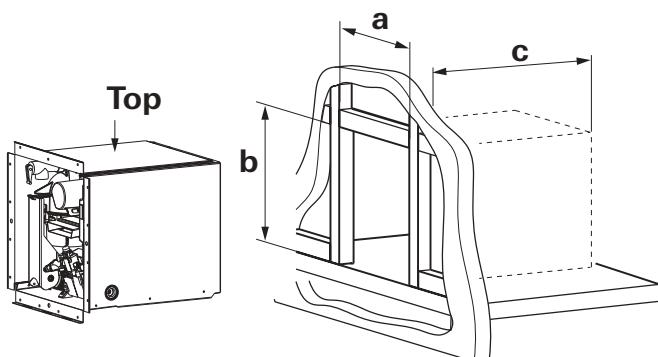

Fig. 13
- Make sure that the front edge of the opening is surrounded by a solid frame to firmly anchor the appliance. If needed, build an appropriate frame (Fig. 13) with the following dimensions: